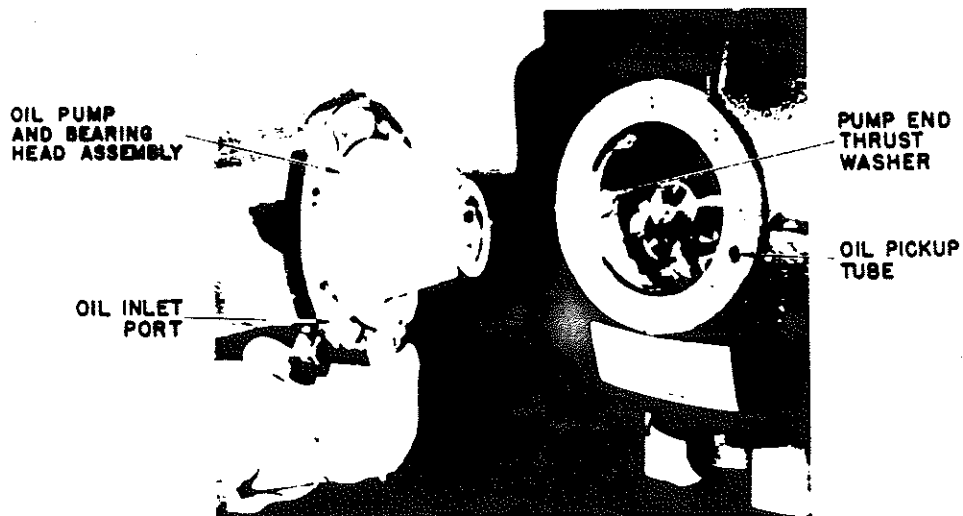

Figure 3-14. Installing Oil Pump and Bearing Head Assembly and Pump End Thrust Washer
a. Reinstall the pump end thrust washer on the two dowel pins located on the bearing head. (See figure 3-14.)